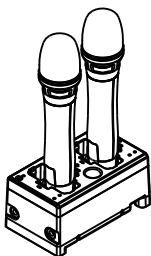

Fig. 17:
3. MP-80 Dual-slot Docking Charger, Fig. 17.